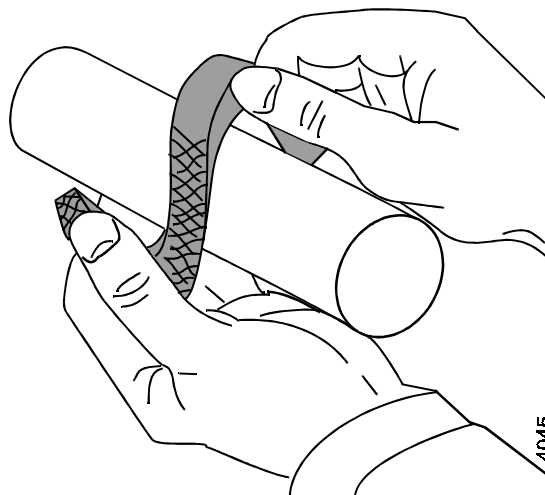

figure 7: Bending open of a gland packing ring.
- 2 Bend the packing rings axially open, see figure 7 and fit these around the pump shaft. Ensure that the cuts are always at 90° with regard to each other.
- 4 Bend open the first packing ring as shown in figure 7 and fit it around the shaft. Thoroughly press the ring home using a suitable piece of halved tube.